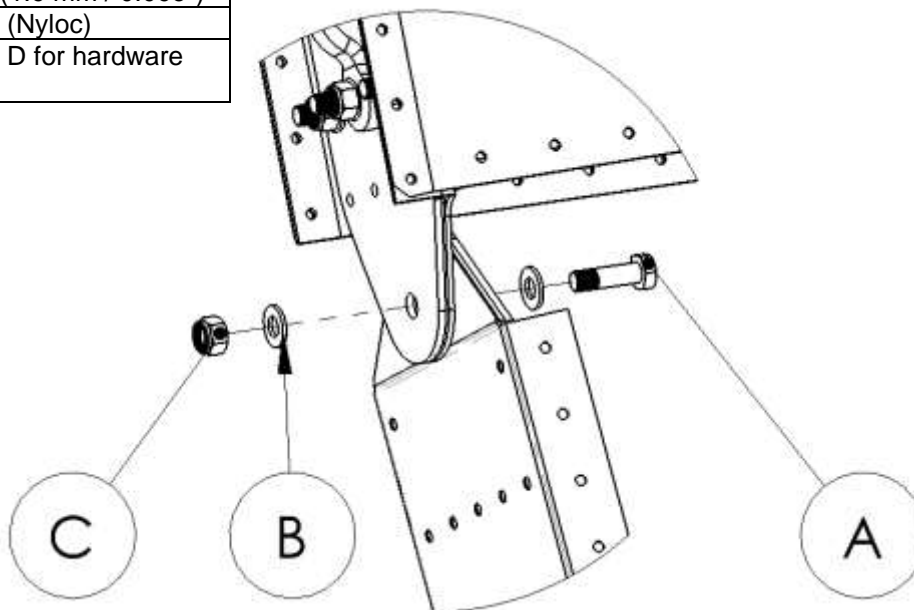

Figure 8: Rear wing spar to fuselage connection.
- Tighten the rear spar bolt to the recommended value (refer to paragraph 1.5.2). Observe the correct placement of washers (refer to Figure 8). Note the head of the bolt is placed towards the nose of the aircraft.